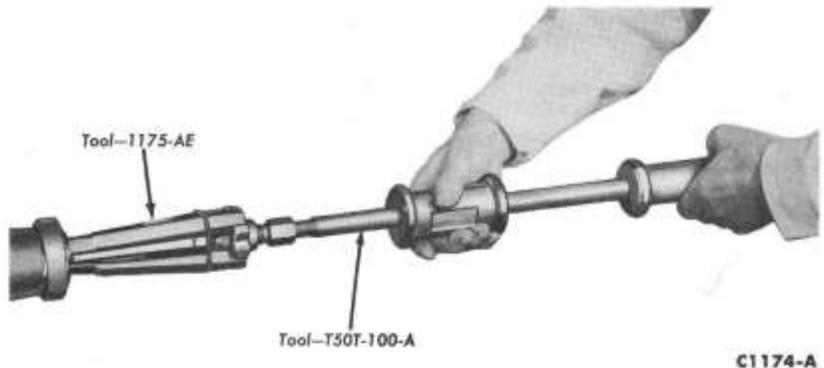

FIG. 11—Seal Removal
22. If the extension housing seal is to be replaced, use the tool shown in Fig. 11 to remove the seal.